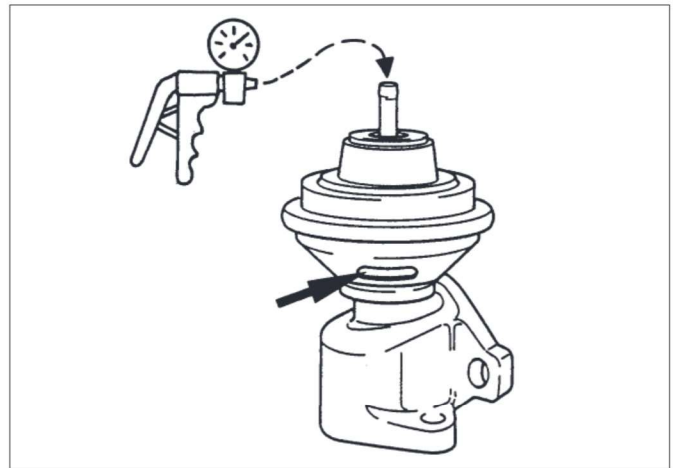

Fig. 9
- Connect manual vacuum pump according to fig. 9 and create a pressure difference of approximately 300 mbar.
- Connect manual vacuum pump according to fig. 9 and operate the pump; the valve should open, the pusher moves in the direction of the vacuum connection; this can be seen on the window (arrow, fig. 9) of the valve.